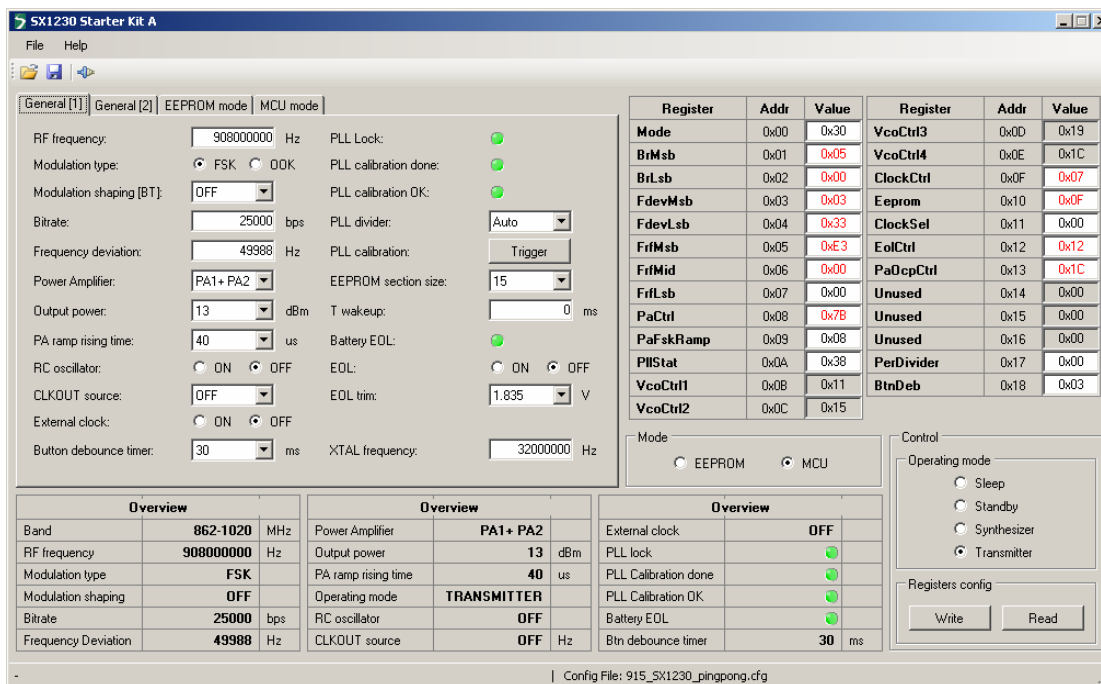

Figure 10. The New SX1230 Configuration: Ready to be Written
7. The display will then appear as shown in Figure 10. These are the link parameters which match those which will be programmed to the SX1212SKA.